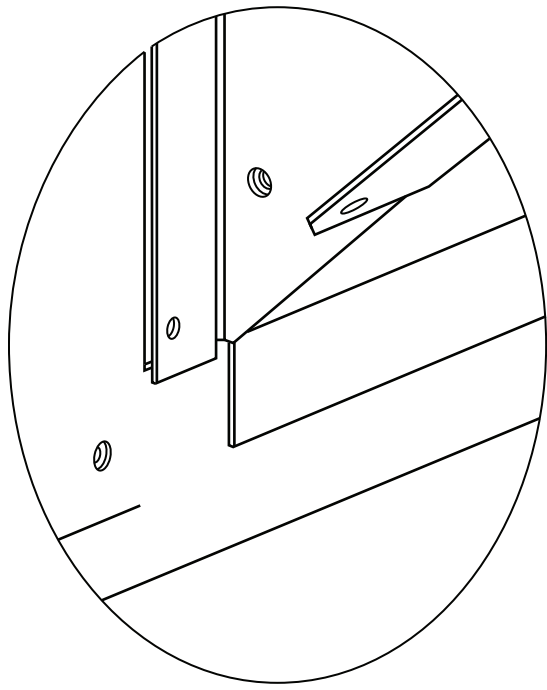

Fig. 16 — Hood Assembly Placed in Duct Work
4. Set the power exhaust hood assembly into the opening in the duct, bottom lip first as shown in Fig. 16.
5. Lift the assembly to allow the bottom corner tabs to hook over the opening in the duct work. (See Fig. 16.)